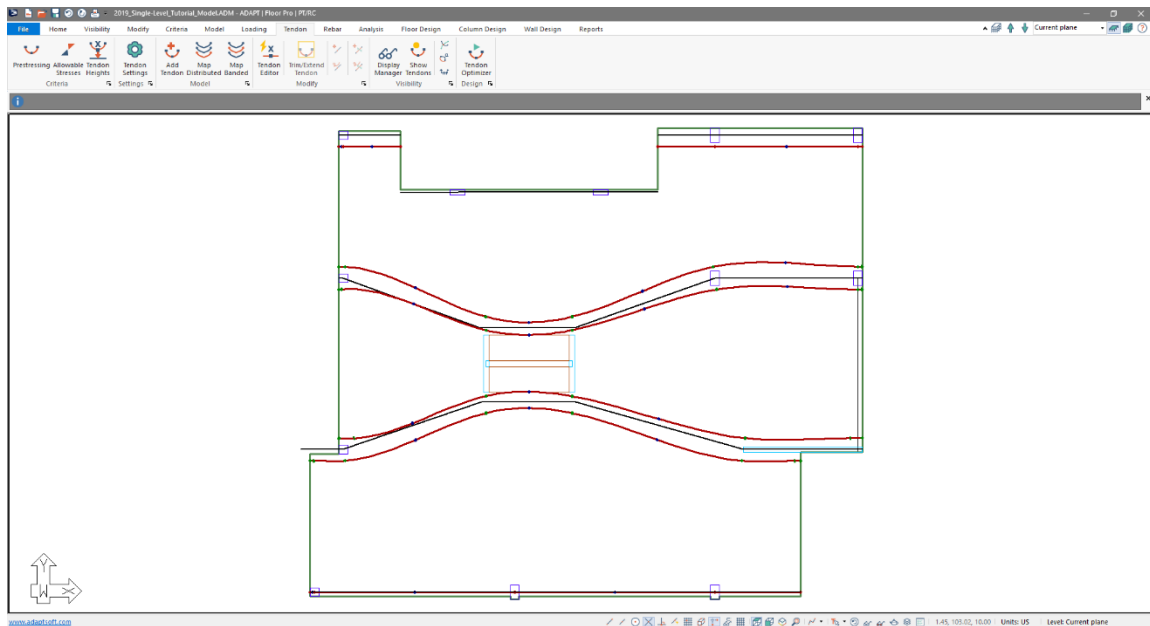

FIGURE 8-18
- Do the same for the other 3 tendons in this area. When complete the tendons should now look similar to **FIGURE 8-18**.